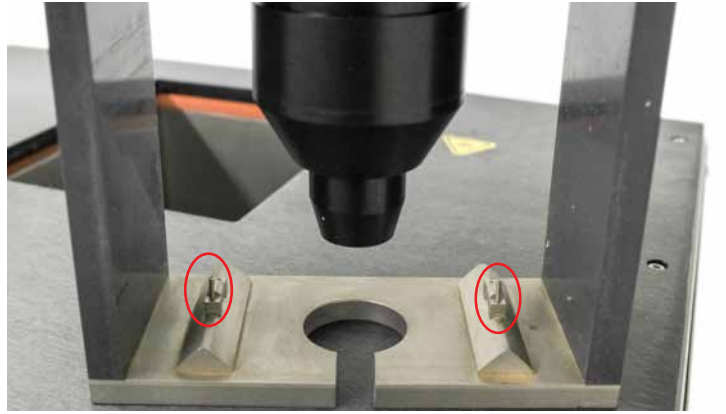

Figure E.17 - BBR3 Anvil Adapters
1. Before running this test you will need to remove the (2) anvil adapters from the Anvil. This is performed by lifting each adapter STRAIGHT UP off of the guide pins. See Figure E.17.